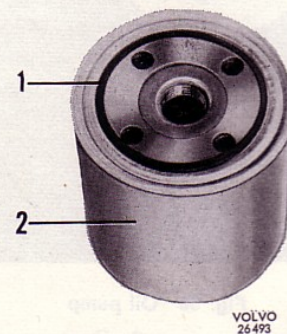

Fig. 54 Oil filter ready for fitting
2. Coat the rubber gasket (1, Fig. 54) of the new filter with oil and make sure that the contact surface for the oil filter is free from dirt. By smearing it with oil, the gasket slides into better contact with the sealing surface. Screw on the filter by hand until it just touches the cylinder block.